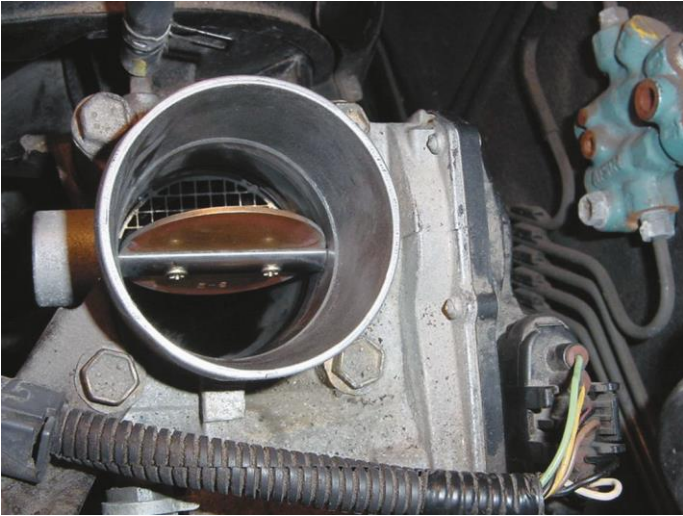

Figure 17. Clean the throttle body using a shop cloth wetted with solvent.
STEP 3 Open the throttle body and use the shop cloth to remove the varnish and carbon deposits from the throttle body housing and throttle plate. Figure 17.